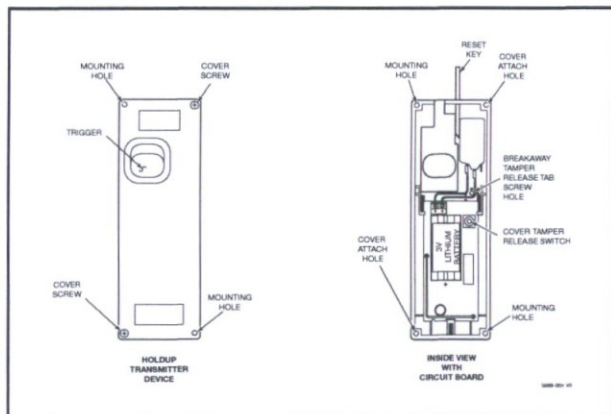

Figure 1
1. Remove the two screws (Figure 1) securing the cover to the 5869 case.
3. Re-install screws to secure cover and/or assembly. Refer to Figure 1.